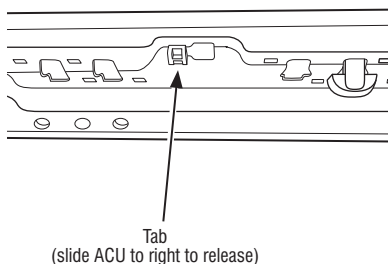

Figure 10 - Releasing ACU Tab from Cabinet
- Appliance Control Unit (ACU) – Gently lay the washer on its right side (place a 2 x 4 or similar sized object on the floor prior to laying the washer on its side to elevate the washer slightly, making it easier to upright it later). Remove the ACU screws on the rear of the washer cabinet with a 7mm hex nut driver. Slide the ACU to the right (toward the suspension dampers), freeing the ACU tab from the ACU slot in the washer cabinet (see Figure 10). Lift the ACU out of the washer cabinet. When placing the washer upright, make sure suspension springs remain in place.